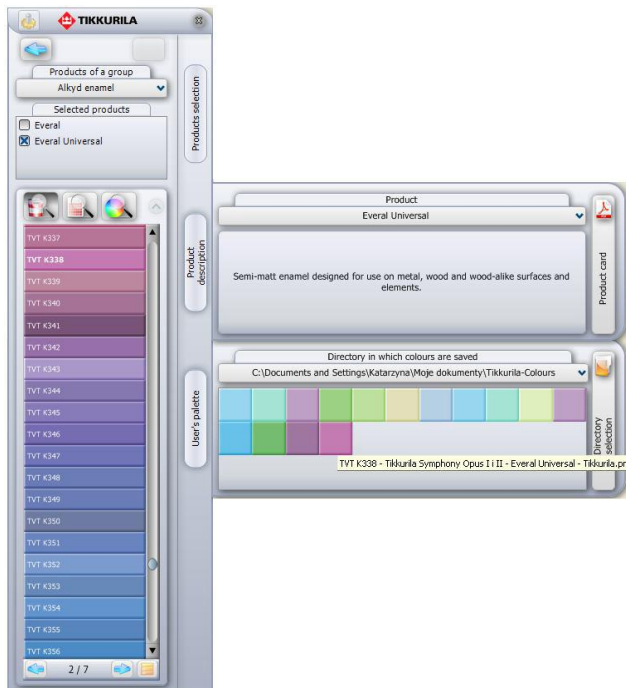

Fig. 5 – an effect of the selection by the code, and adding the product to the User Palette and the description display
- Then left-click on the product and holding the button, move the cursor to the pane and release the mouse button - the colour will be added to the palette and will be displayed in a form of a square thumbnail (Fig. 5);
- Type the code in here and confirm by clicking  (Fig. 5) (the capitalization does not matter);